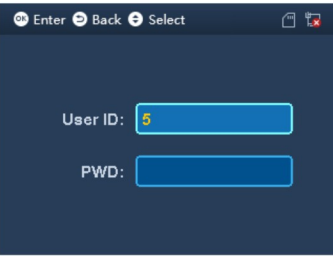

Figure 2-2
- Click number key, see Figure 2-2. Enter user ID and password can pass attendance.